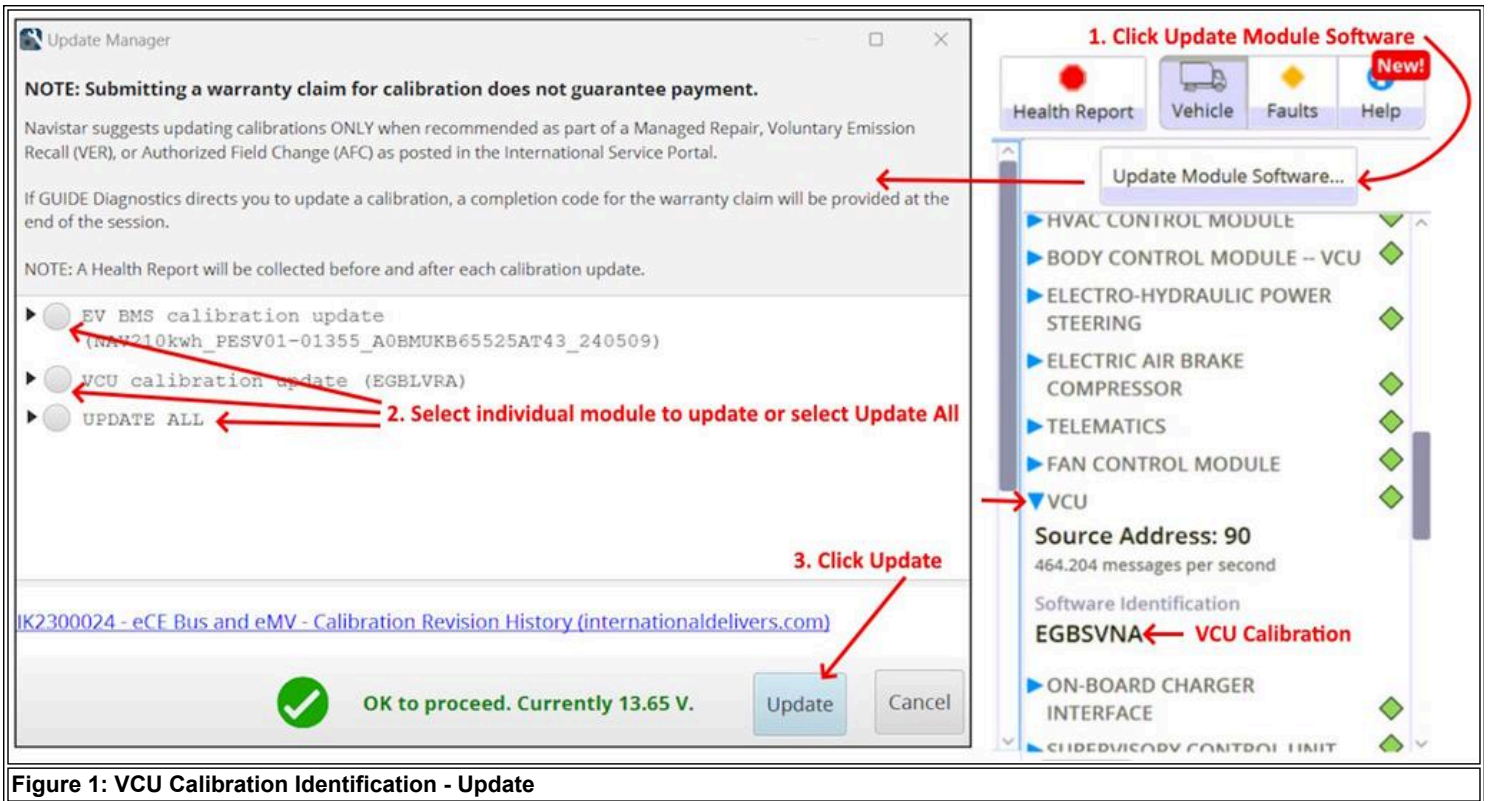

Figure 1: VCU Calibration Identification - Update
4. Click the Update Module Software button. Figure 1 item #1
5. Select the Calibration update: Figure 1 item #2
6. Click Update. Figure 1 item #3